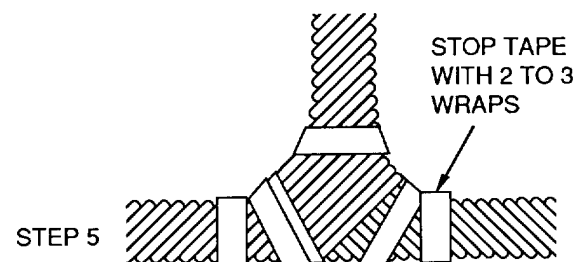

Figure 3. Taping Harness Breakouts
9. **Taping Harness Breakouts.** Taping harness breakouts by performing procedure (Figure 3)